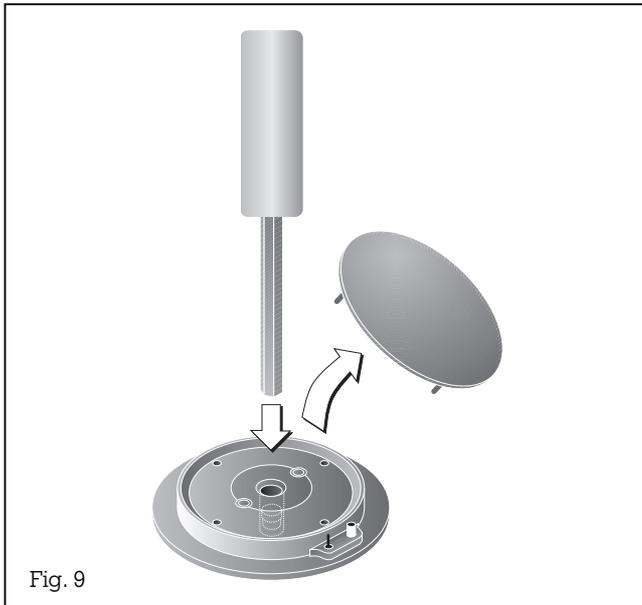

Fig. 9
- The main nozzle 2 is visible after detaching the burner cover (see Fig. 9). It is unscrewed with a special screw key.